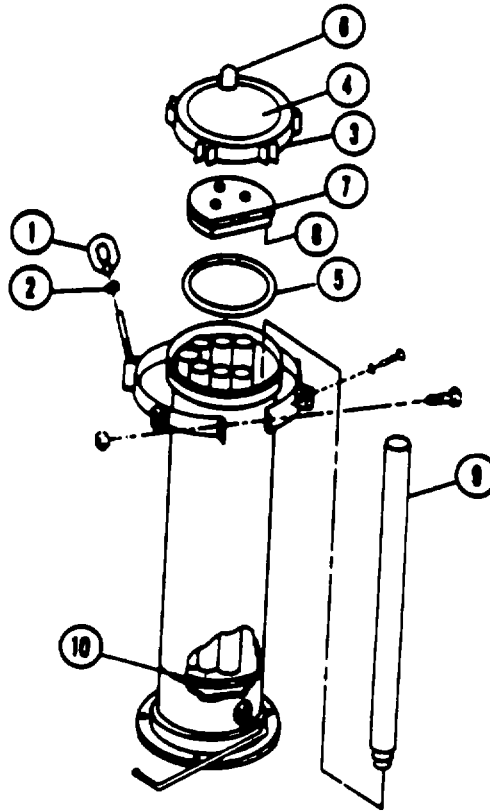

Figure 3-10. Cartridge Filter Assembly (Model Nos. 0996108001 and 0996109001)
- (a) Slide hose clamp (1) over tubing (2). Place tubing (2) and clamp (1) over adapter (13) and tighten clamp (1).
- (b) Place bushing (6) back on pipe.
- (c) Swing elbow (7) back into place and put bushing (6) over elbow (7).
- (d) Put clamp (5) over bushing (6).
- (e) Put bolts (4) into clamps (5).
- (f) Put nuts (3) on bolts (4) and tighten.
(17) Operate ROWPU (para. 2-25) and observe for leaks.
**3-5. CHANGING CARTRIDGE FILTER TUBE ELEMENTS.** Refer to fig. 3-10.